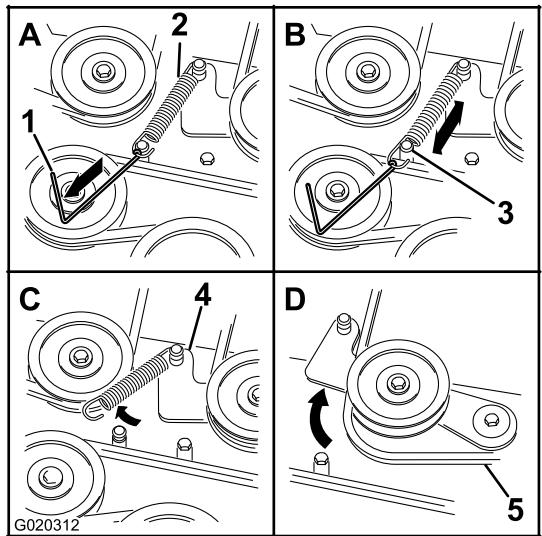

Figure 66
- 6. Using a spring removal tool (Toro part no. 92-5771), remove the idler spring from the deck post to remove tension on the idler pulley (Figure 66).
1. Install the new belt around the mower pulleys and the clutch pulley under the engine (Figure 66).
2. Using a spring removal tool (Toro part no. 92-5771), install the idler spring over the deck post and place tension on the idler pulley and mower belt (Figure 66).